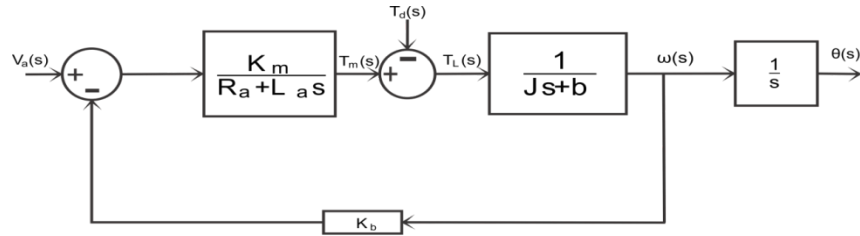

Figure 16: Basic block diagram of the armature-controlled DC motor.
Using Laplace transform, the model represented by equations (5) to (7) can be modeled as shown below. Use transfer function block of simulink and prepare simulink model as shown in Fig.16.